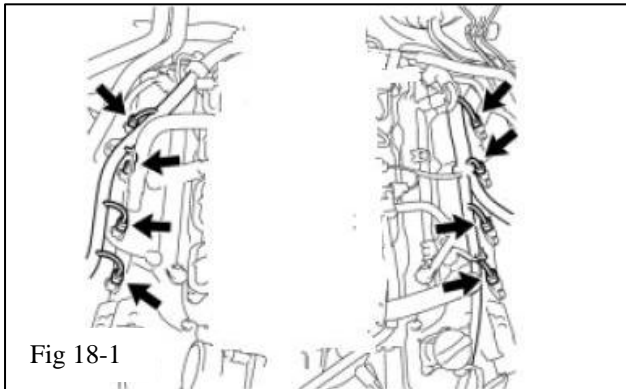

Fig 18-1
- (a) Unplug and remove all 8 coils (Fig 18-1).